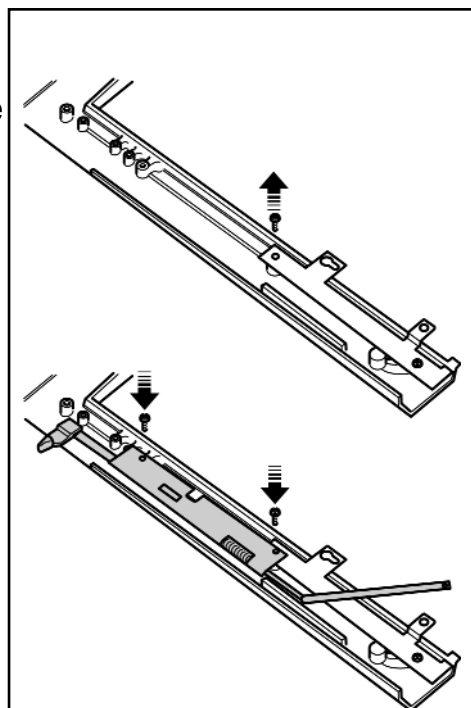

Figure 30. Attaching slider control to Heritage fascia
1. The fascia is supplied with two brackets secured at the bottom. Lie the fascia face down and remove the upper screw from the left hand bracket (See figure 30).
2. Attach the slider control to the rear of the fascia using two M4 x 10mm countersunk screws (See figure 30).